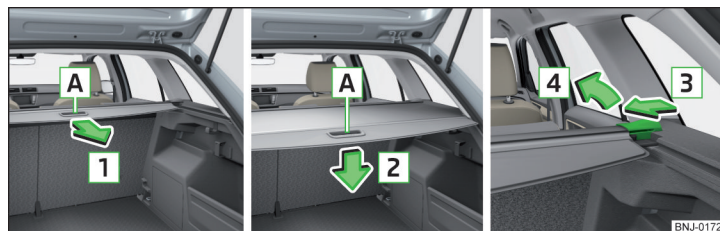

Fig. 110 Roll-up cover: extending/retracting/removing
» Grasp the cover at grip-point **A** and pull it out in the direction of the arrow **1** until it audibly clicks into place » Fig. 110.
» Push the cover in the handle area **A** in the direction of arrow **2** » Fig. 110. The cover rolls up automatically. The rolled-up cover can now be removed.
» Press on the side of the cross bar in the direction of arrow **3** and remove the cover in the arrow direction **4** » Fig. 110.
- To install, remove the retractable luggage compartment cover » Fig. 110 on page 85 or the fold the rear seat backrests forwards » page 70.